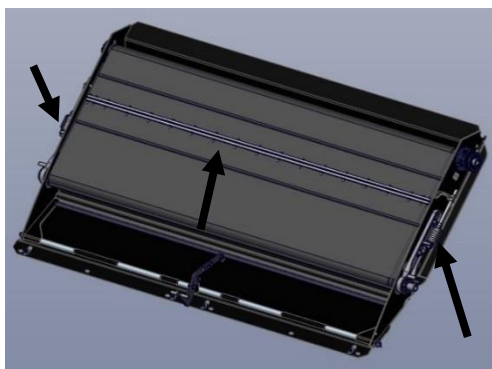

Figure 53
2. To remove the draper belt, loosen the tension off the belt by loosening the spring tension off on both sides of the deck. Figure 53
3. Remove all the bolts in the splice and pull the belt off the center frame Figure 53